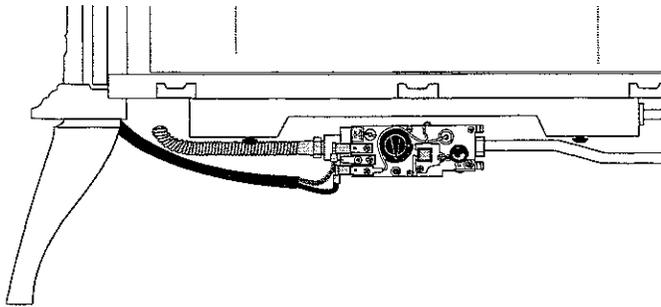

Fig. 18. Flexible gas line connection.
2. **Connect the main gas supply line** to the inlet on the left side of the control valve. See Fig. 18.